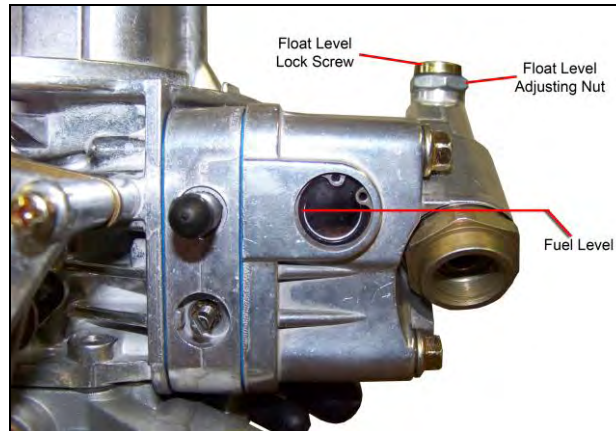

Figure 14
2. Observe the sight glass for the fuel level. If none is seen, the level is too low. If it is higher than the middle of the sight window, it is too high. **NOTE:** A properly set float level will have the fuel level located at the middle or slightly below the middle of the sight window, as shown by the line in Figure 14.